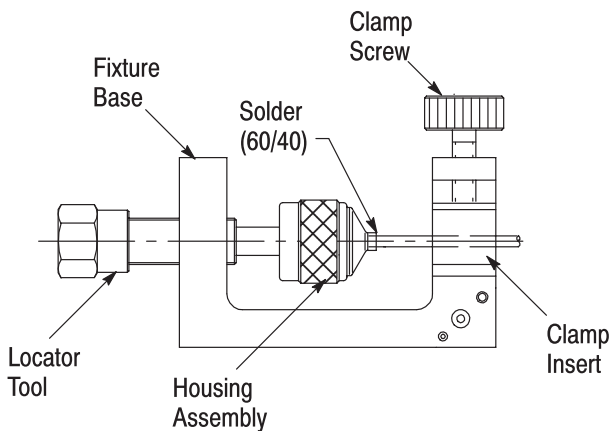

Figure 5
2. Place the assembly in the fixture base as shown in Figure 5.